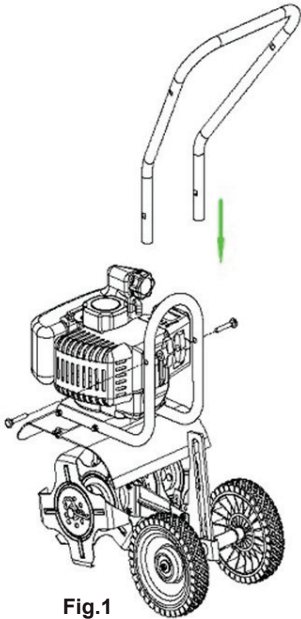

Fig.1
1. Assembly of middle and down handles. (Fig.1)
As fig 1 shows, insert the middle handle to down handle until the holes match, and then fasten the two handles by the bolts and nuts.